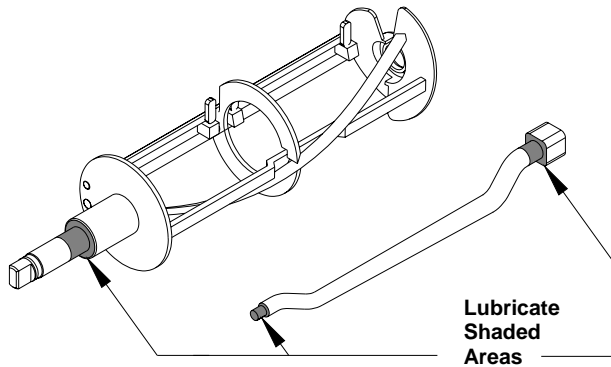
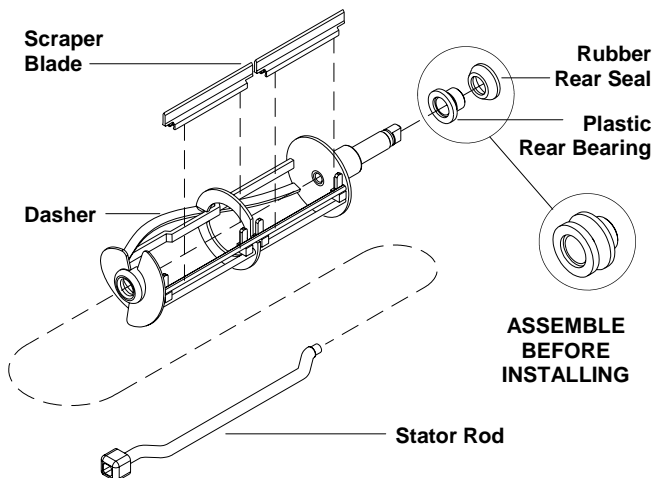

Fig. 4
Fig. 5
a. Apply a generous amount of lubricant to the shoulder of the dasher and the area of the shaft where the white plastic portion of the rear seal assembly contacts the shaft (Fig. 4). This is easily performed by running a 1/4 inch bead of lubricant around the shoulder of the dasher.
b. Lubricate the two areas of the stator rod (Fig. 4) and slide the stator rod into the dasher (Fig. 5). Make certain that the end of the stator rod is inserted into the hole at the rear of the dasher.
c. Install the rear seal assembly so that the rubber portion of the rear seal assembly is facing the rear wall of the barrel and the plastic rear bearing is resting against the dasher. (Fig. 5).